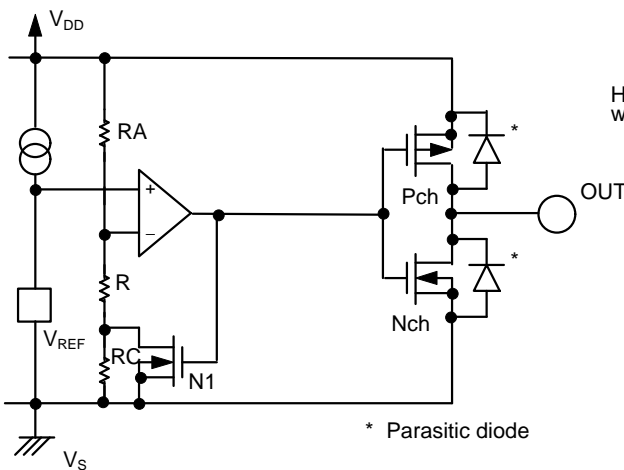

Figure 9
- (1) When power supply voltage  $V_{DD}$  is greater than the release voltage  $+V_{DET}$ , the Nch transistor is OFF and the Pch transistor ON, causing  $V_{DD}$  (high) to appear at the output. With the Nch transistor N1 of Figure 9 OFF, the comparator input voltage is  $(RB+RC)/(RA+RB+RC) \times V_{DD}$ .
- (2) When power supply voltage  $V_{DD}$  goes below  $+V_{DET}$ , the output maintains the power supply voltage level, as long as  $V_{DD}$  remains above the detection voltage  $-V_{DET}$ . When  $V_{DD}$  does fall below  $-V_{DET}$  (A in Figure 10), the Nch transistor goes ON, the Pch transistor goes OFF, and  $V_{SS}$  appears at the output. With the Nch transistor N 1 of Figure 9 ON, the comparator input voltage is  $RB/(RA+RB) \times V_{DD}$ .
- (3) When  $V_{DD}$  falls below the minimum operating voltage, the output becomes undefined. However, output will revert to  $V_{DD}$  if a pull-up has been employed.
- (4)  $V_{SS}$  will again be output when  $V_{DD}$  rises above the minimum operating voltage.  $V_{SS}$  will continue to be output even when  $V_{DD}$  surpasses  $-V_{DET}$ , as long as it does not exceed the release voltage  $+V_{DET}$ .